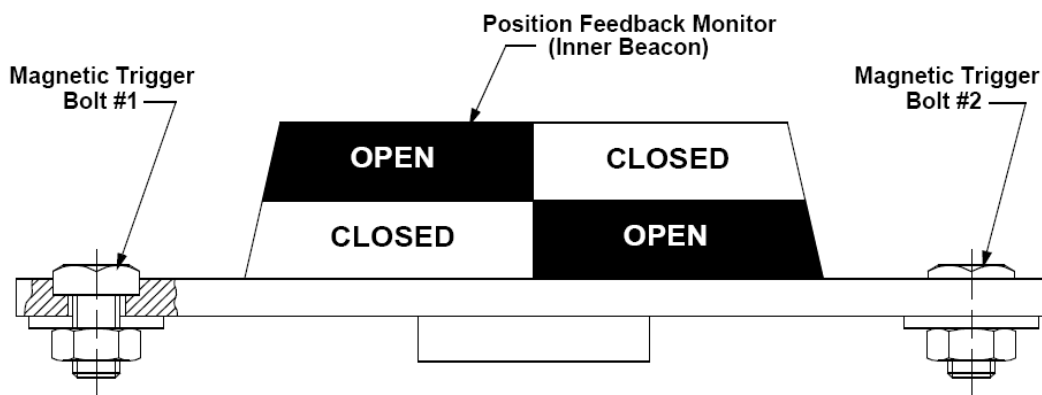

Figure 3-11
2. Loosen magnetic trigger bolt #1. (See Figure 3-11)